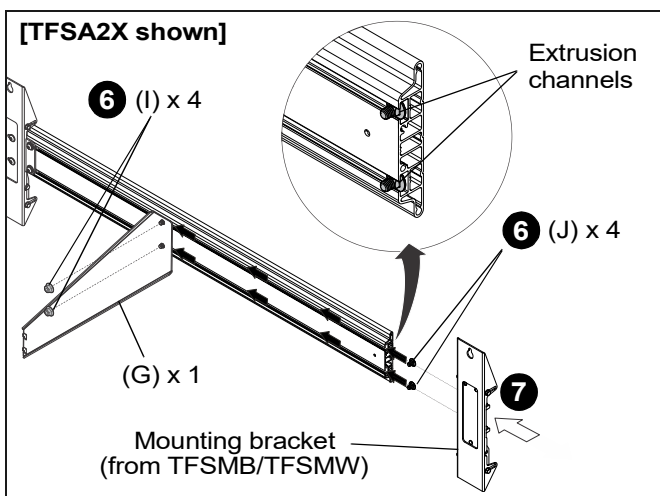

Figure 6
6. **TFSA2X only:** Insert two 5/16" carriage bolts (J) into the channels in each extrusion (four total screws). Loosely attach the right (F) and left (G) supports to the carriage bolts using two flange nuts (I) per support (four total nuts). (See Figure 6)
7. Install a mounting bracket included with TFSMB/TFSMW on each assembled extrusion (two total). Position brackets at the outermost ends of the extrusion rails. (See Figure 6)
8. Tighten the nuts on the mounting bracket to secure to the outermost end of the extrusion. (See Figure 6)